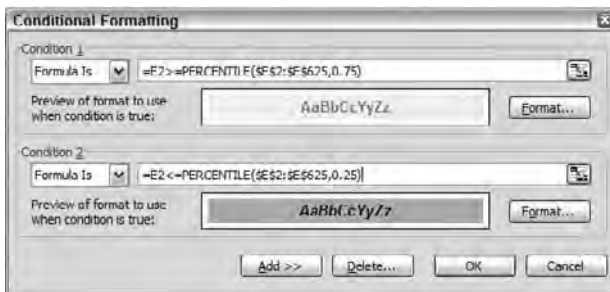

Figure 15.3: Apply up to three conditional formats in older versions of Excel to help you identify four different alert ranges.
- Click the Format button and format the cells that meet this condition with bold, italic black font and light pink background. This formatting enables color-blind readers see the bold italic difference. The Conditional Formatting dialog box will look like Figure 15.3.